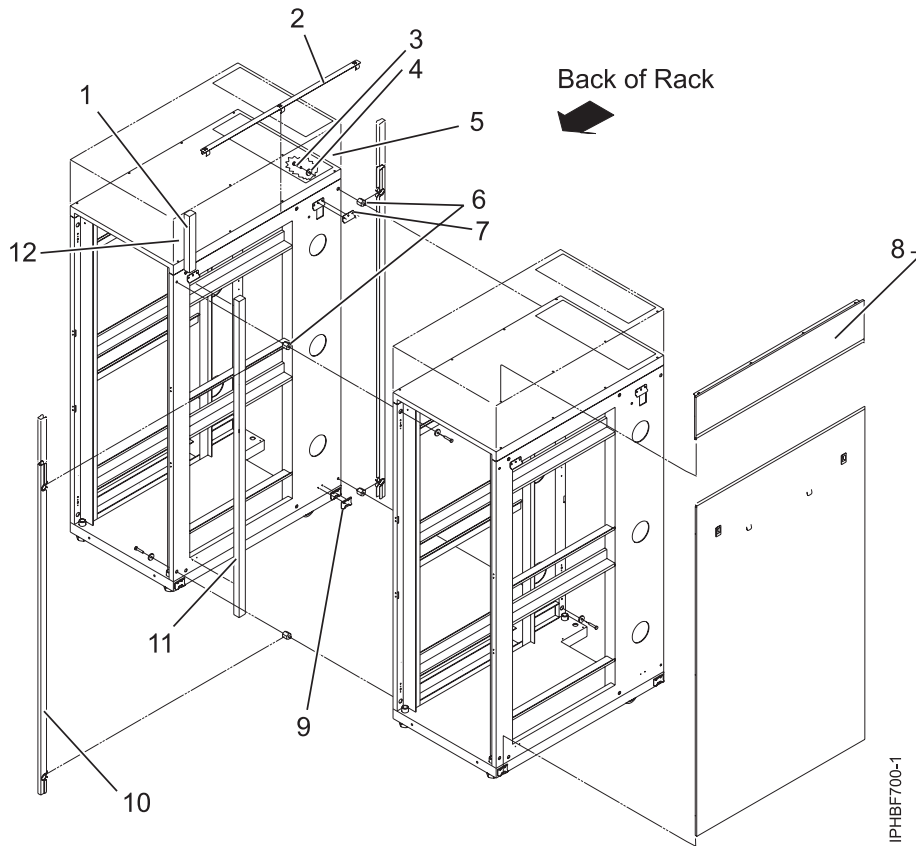

Figure 32. Removing the side panels, Z and J brackets, and installing standoffs and long foam to connect multiple racks
4. Install the first two standoffs in the upper-left and lower-right corners of the first rack as shown in Figure 32.
5. Install the second two standoffs in the upper-left and lower-right corners of the second rack as shown in Figure 32.
6. Attach the long foam as shown in Figure 32. For a model T42 rack, join the short foam to the end of the long foam, and adhere it to the frame length of the rack.